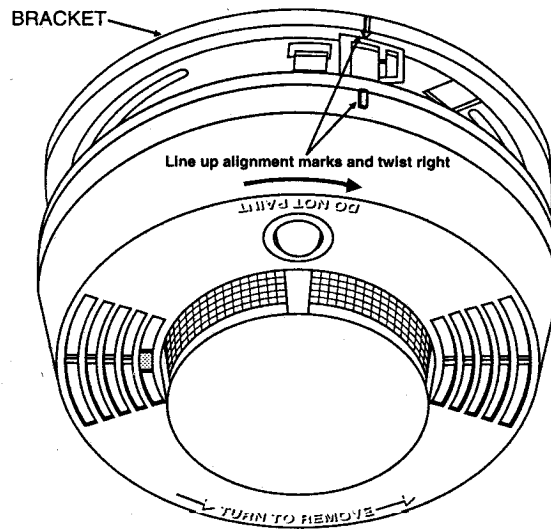

Figure B.3. Alignment Arrows
4. Place sensor in mounting bracket by aligning arrows on mounting bracket and smoke detector. (See Figure B.3.)